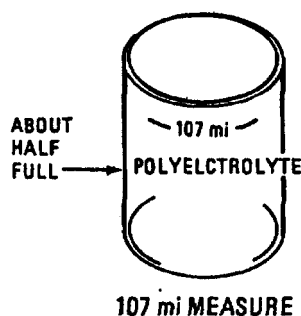

Figure 2-40. Polyelectrolyte Measure.
- (5) Mix polymer solution as follows:
- (a) Fill POLYMER measure HALF FULL, approximately 53 ml, (figure 2-40) with liquid polymer chemical (there is no half full mark on measure).